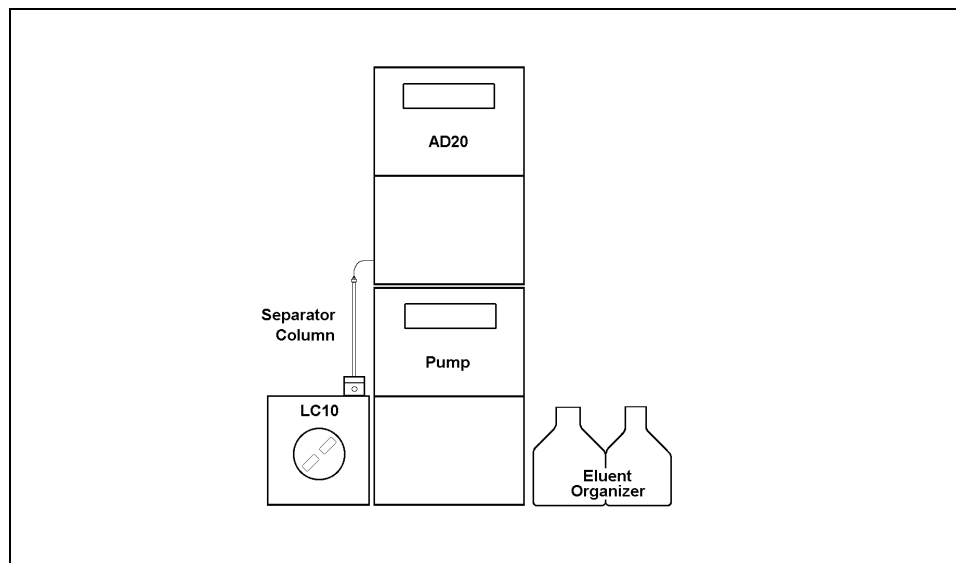

Figure 2-6. LC10 with AD20 Absorbance Detector
The AD20 Absorbance Detector does not have a remote cell. Therefore, the separator column should be mounted vertically, as shown in Figure 2-6. In this configuration, the top of the separator column is level with the AD20, thus minimizing tubing length and dead volume within the system.
- e. **Absorbance Detection Only:** Connect the separator column outlet to the detector cell inlet as explained in the detector manual. The finished configuration should look Figure 2-6.